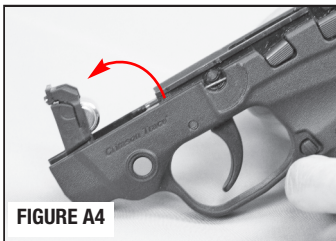

FIGURE A4
- Ensure the captive screw is slightly raised from the laser housing. (FIGURE A3). Using a small screwdriver, or similar tool, gently pry the laser mechanism up at the rear and tip it forward as shown in FIGURE A4.
- Pull the laser assembly up and out of its seating cavity (FIGURE A4). Once it's tipped up the laser unit can be lifted clear of the frame.